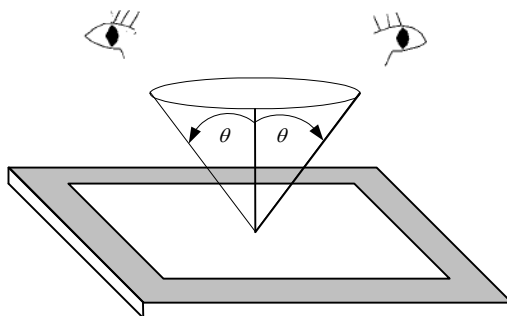

Fig. 11.1
- The viewing zone is defined with angle  $\theta$  shown in Fig. 11.1 The inspection should be performed within  $45^\circ$  when display is shutdown. The inspection should be performed within  $5^\circ$  when display is power on.